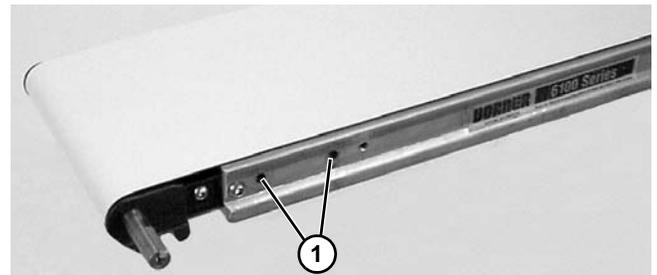

Figure 3
5. Locate drive output shaft and remove two (2) screws (Figure 3, item 1).